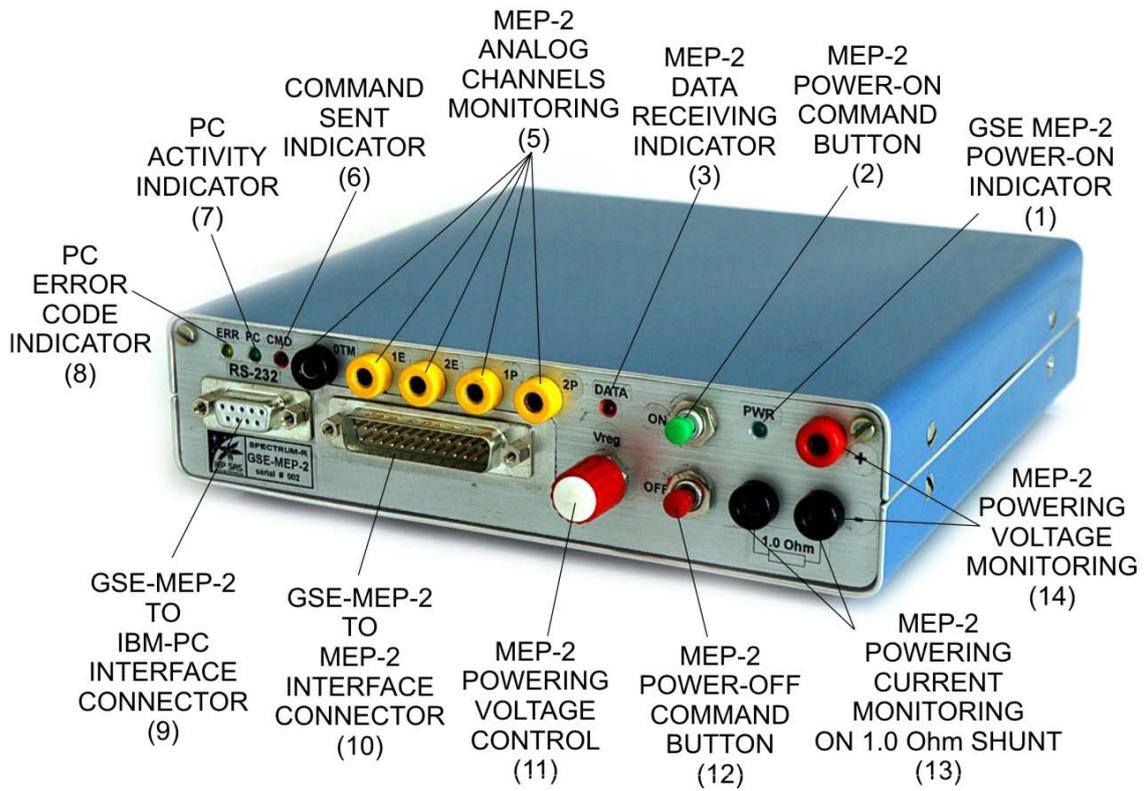
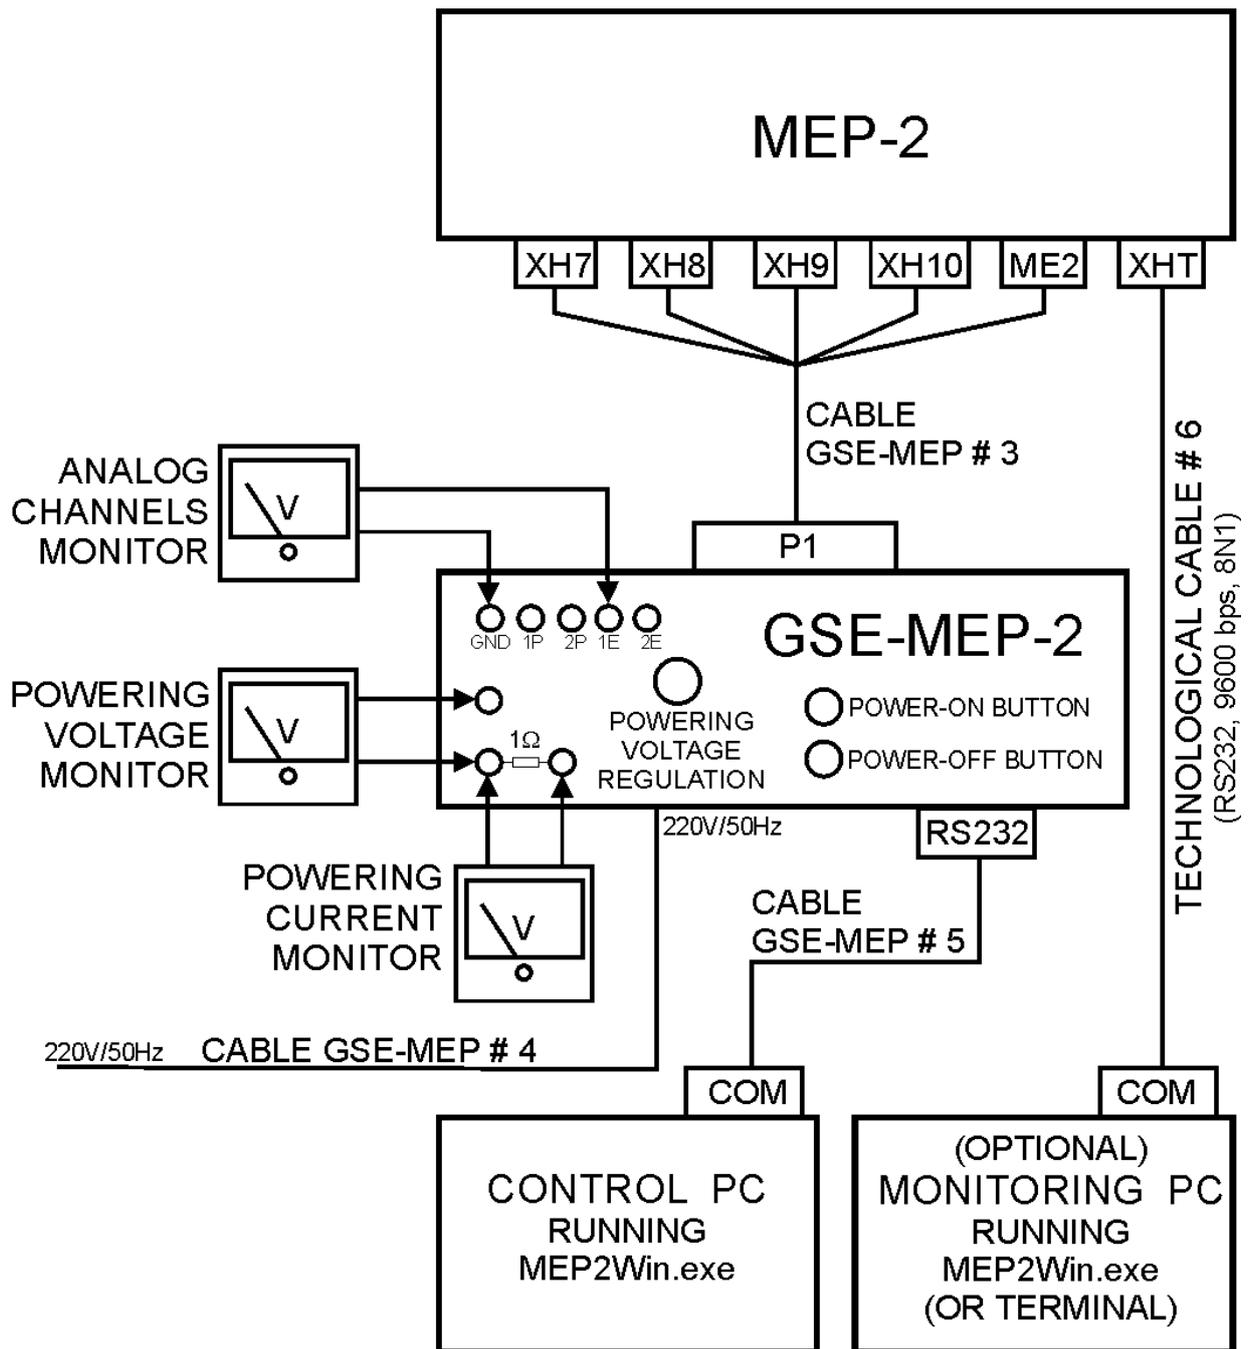
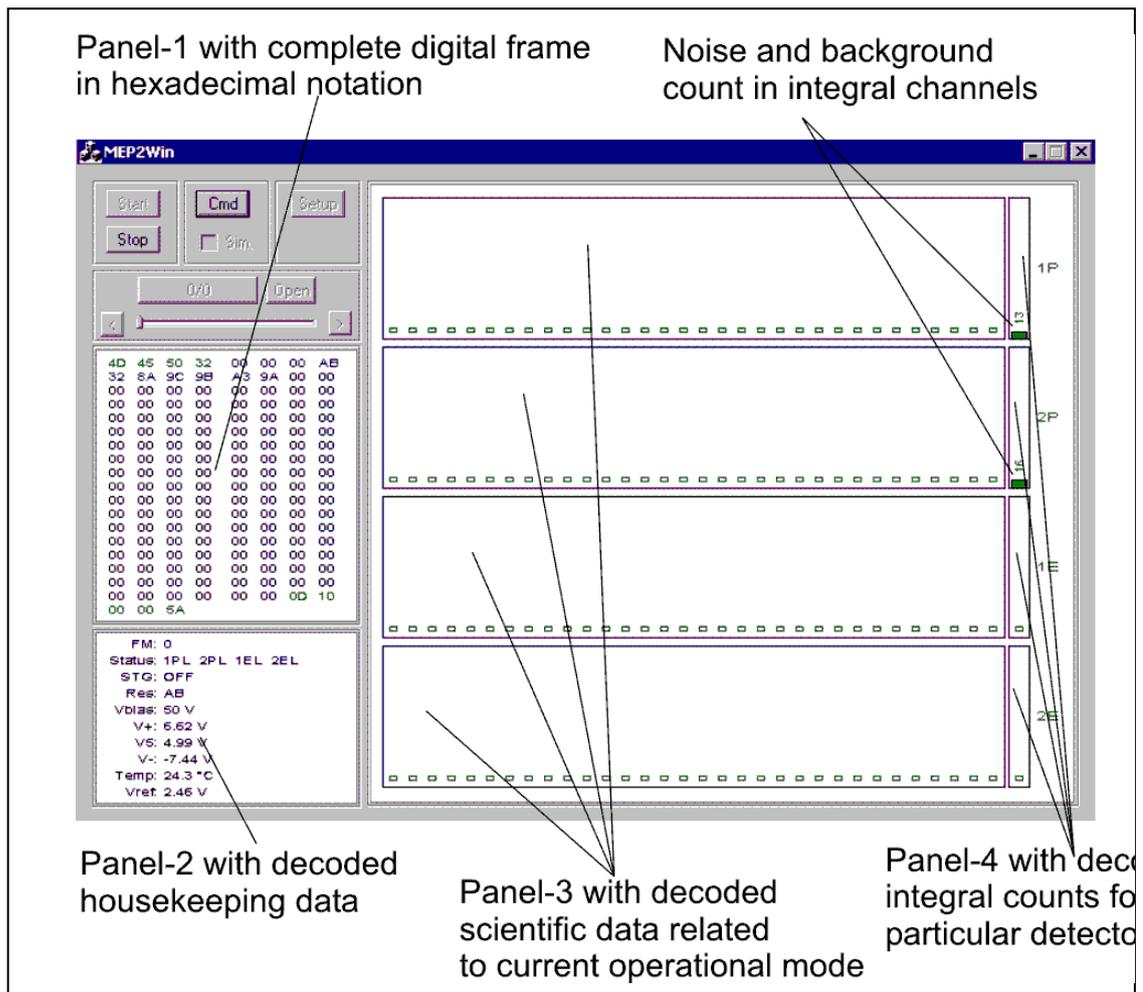

Figure. 1. Ground support equipment GSE-MEP-2
Figure 2. Working configuration for autonomous testing of the MEP-2
Figure 3. The graphic interface after power-ON of the MEP-2.
1. Connect the GSE (Fig.1), the MEP-2 and the control PC with dedicated cables as described in Figure 2.
2. Switch-ON the GSE power button on the back panel of the GSE-MEP-2. The POWER-ON indicator (1) will light up. In this state the GSE is powered and the powering voltage is also supplied to the MEP-2 powering connector XH7.
3. Set powering voltage by the regulation rotary knob (11) to nominal value 27V. The voltage value shall be monitored by an external voltmeter connected to the voltage monitoring terminals (14).
4. Check the MEP-2 current consumption by measuring the voltage on terminals (13). The consumption shall be zero (if MEP is in OFF state)
5. Press the MEP-2 power-ON command button (2). The command will toggle the bi-stable internal power relay of the MEP to ON – state. The instrument is now powered and starts to send the data frames. The data receiving indicator (3) will flash with 1 second period, showing incoming data frames.
11. Start the data monitoring by clicking the START button. The complete data frames are continuously displayed in the Panel-1 of the graphic interface in digital (hexadecimal) format (Figure 3.). Moreover, the housekeeping (HK) part of the frame is also decoded and displayed in the Panel-2, the scientific data related to actual operational mode (DLT) are decoded and displayed in Panel 3 and the integral counts of particular detectors are displayed in Panel 4. The normal initial HK data after power-ON are displayed in the Table 1.